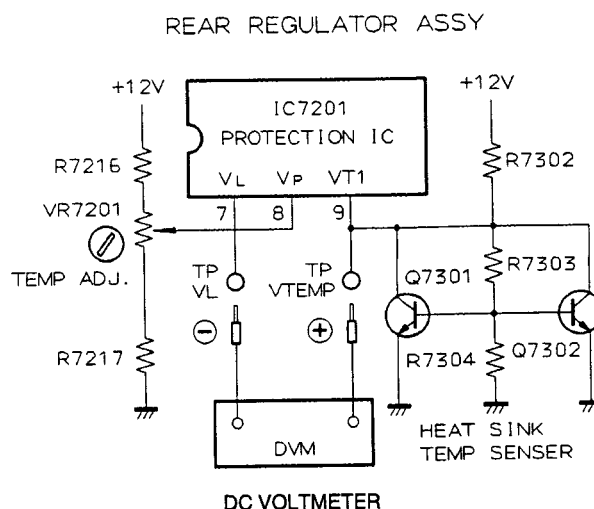

Fig. 2-6 Adjustment of Operating Temperature Setting of Fan Motor
1. Connect a voltmeter between VTEMP and VL (or between IC7201 terminals No.9 and 7). (Refer to Fig. 2-6.)